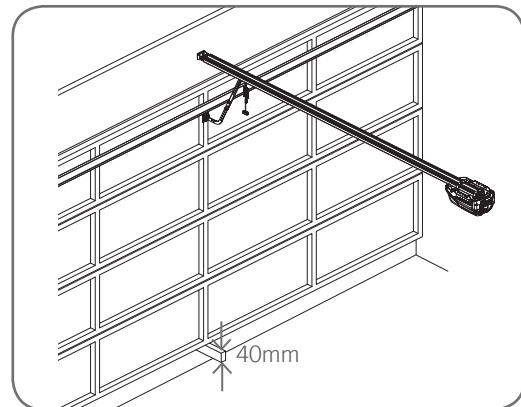

Fig. 27
- Place a piece of timber approximately 40mm high on the floor directly under the door (Fig 27).